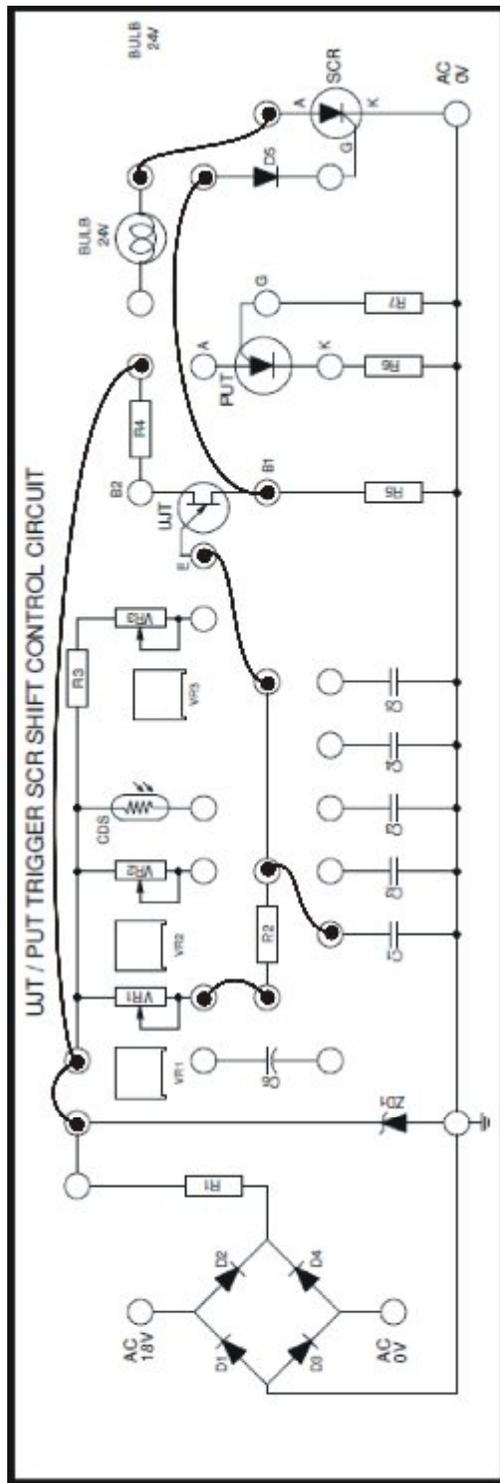

Fig. 8.3
Fig. 8-3 shows the UJT-SCR phase control circuit used in this experiment. The bridge rectifier, D1 to D4, provides a pulsating dc form the 18V ac voltage. Zener diode ZD1 clamps the pulsating dc voltage at 12V for the relaxation oscillator. Resistor R1 protects the zener form over-current damage.
1. Locate the UJT trigger SCR shift control circuit, shown in Fig. 8-3, on Module IT-9002. Apply 18V AC voltage to this circuit from Power Supply Unit IT-9000.
2. Draw a circuit diagram by connecting points as shown in Fig 8-3. Rotate the VR1 fully CCW to get the minimum resistance.